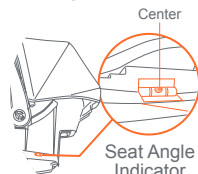

Fig. 51-2
- If the Seat Angle Indicator shows the bubble centered between the lines, the seat is installed at the proper level of recline for occupants 4-22 lb. (Fig 51-2).